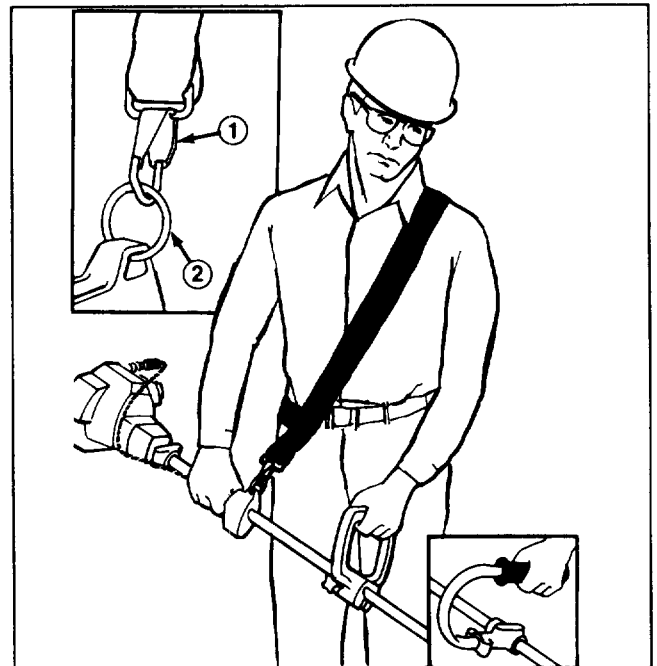

Figure 3
ATTACH HARNESS (Fig. 3)
1. Unsnap harness hook from hanger ring (Fig. 3).